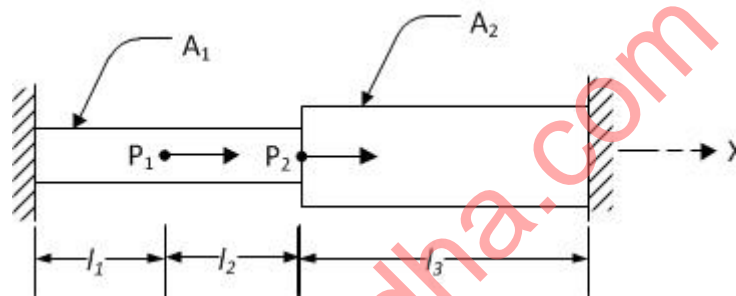

Figure 2
- (b)** Determine the displacements of nodes and elemental stresses for the bar as shown in figure 2. Take:  $A_1 = 400 \text{ mm}^2$ ,  $A_2 = 500 \text{ mm}^2$ ,  $l_1 = l_2 = 200 \text{ mm}$ ,  $l_3 = 250 \text{ mm}$ ,  $P_1 = P_2 = 10 \text{ kN}$  and  $E = 200 \text{ GPa}$ . **07**